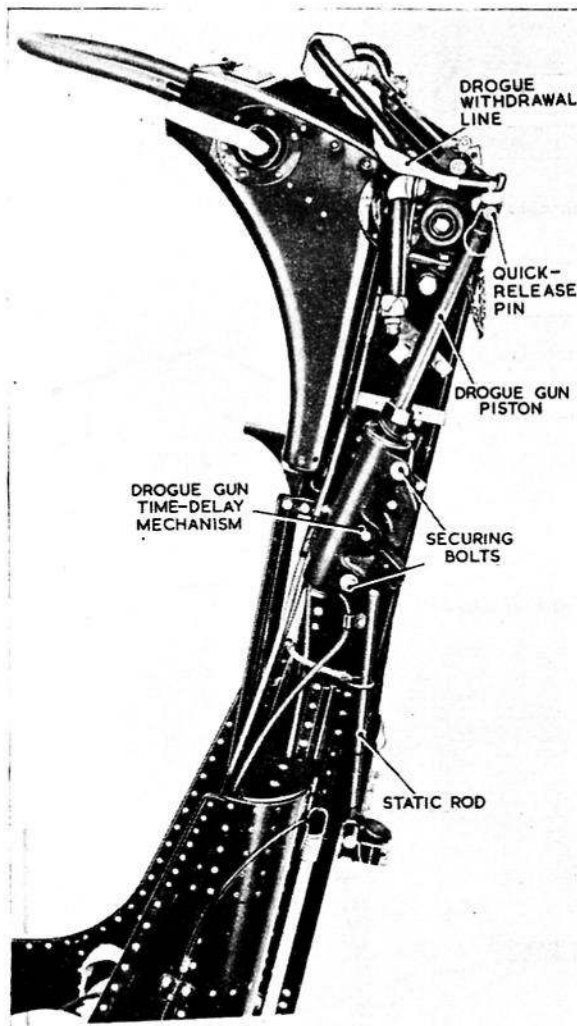

Fig. 2. Removing the drogue gun
7. (1) Remove the nuts from the securing bolts (fig. 2) and disengage the drogue gun.